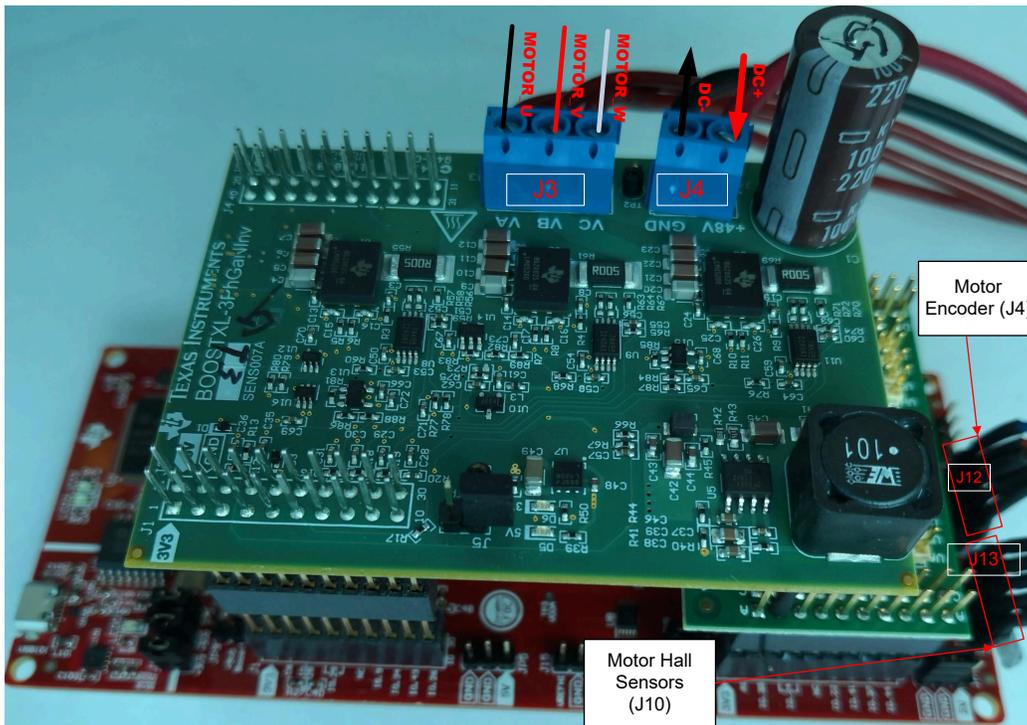

Figure 3-14. LAUNCHXL-F280025C/F280039C/F2800137 Connected to the BOOSTXL-3PHGANINV and DAC128S085EVM
- Make sure that the following items are completed as described below, and then connect the **BOOSTXL-3PHGANINV** to J1/J3 and J4/J2 of the **LAUNCHXL-F280025C**, **LAUNCHXL-F280039C**, or **LAUNCHXL-F2800137** as shown in **Figure 3-14**.
- Connect the motor, encoder, and Hall sensors to the **BOOSTXL-3PHGANINV** and the **LAUNCHXL-F280025C**, **LAUNCHXL-F280039C**, or **LAUNCHXL-F2800137** as described in **Table 3-2** and shown in **Figure 3-14**.